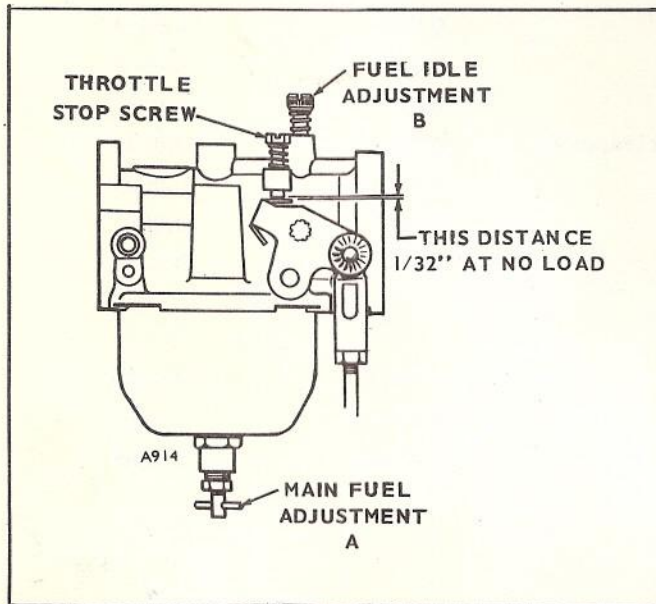

FIGURE 5. CARBURETOR
**Gasoline:** Adjusting the carburetor means obtaining the correct fuel-to-air mixture for smooth, efficient operation. The carburetor should be adjusted in two steps – first the idle adjustment and then the load adjustment (Fig. 5).
With the carburetor and governor adjusted, set the throttle stop screw, Fig. 5 to allow 1/32" clearance to the stop pin with the engine operating at no load. This prevents excessive hunting when a large load is suddenly removed.